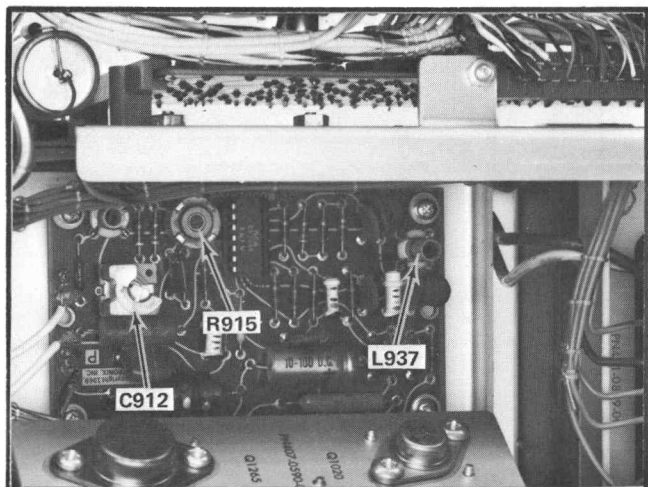
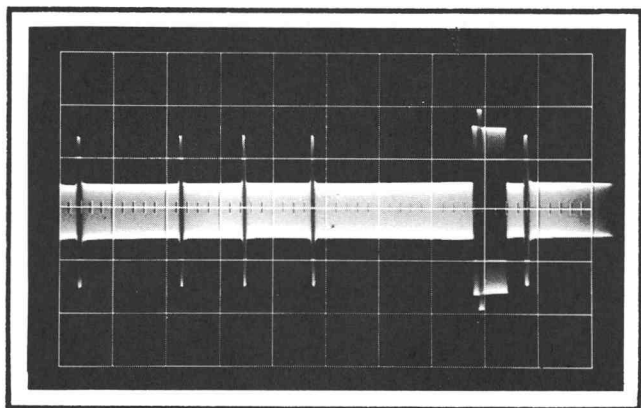

Fig. 5-29. Location of Modulator adjustments.
Fig. 5-30. Modulation level adjusted for maximum modulation.
b. Adjust the Modulation Level, R915, (see Fig. 5-29) for maximum video on the carrier (Maximum modulation, see Fig. 5-30).
c. ADJUST—C912, (see Fig. 5-29) for maximum output as displayed on the test oscilloscope.
d. OPTIONAL—To peak U.S. Channel 3 or to change to U.S. Channel 2 or 4: Connect a 75 Ω coaxial cable from the RF output on the Type 4501 to a television receiver and set the television receiver to the desired channel, then adjust L937, (see Fig. 5-29) for optimum video on the television set.